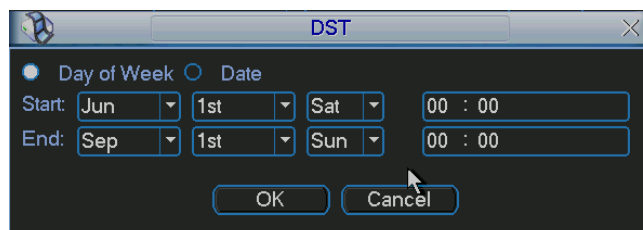

Figure 6-16
- DST: Here you can set DST time and date. Please enable DST function and then click set button. You can see an interface is shown as in Figure 6-16. Here you can set start time and end time by setting corresponding week setup. In Figure 6-16, enable date button, you can see an interface is shown as in Figure 5-5. Here you can set start time and end time by setting corresponding date setup.